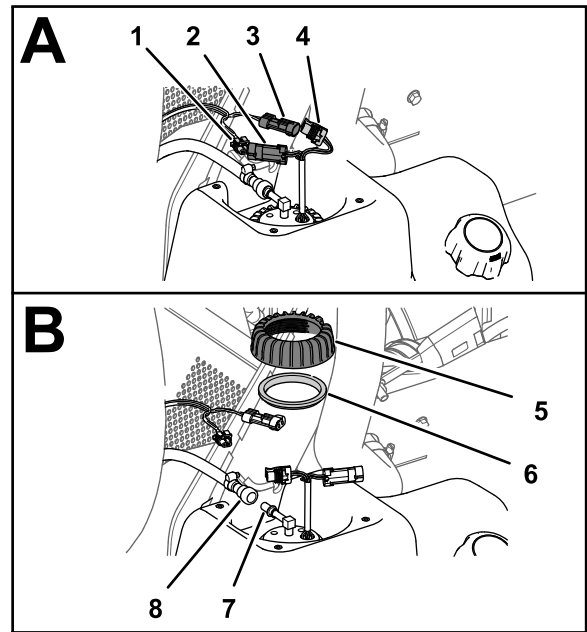

Figure 118
machine-wiring harness from the 2-socket connector of the fuel pump/sending unit (Figure 118).
2. Slide the locking sleeve of the fuel-hose coupling away from the fitting of the fuel pump/sending unit and remove the coupling and hose from the fitting (Figure 118).
3. Rotate the nut for the fuel pump/sending unit counterclockwise and remove the nut and seal (Figure 118)